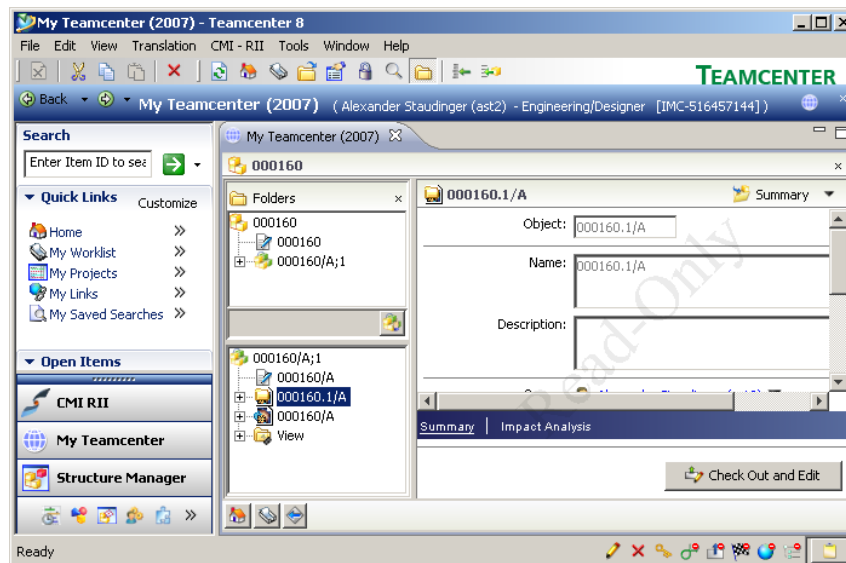

Figure 66: CMI Archive item in Teamcenter
CMI RII has created a new CMI Archive dataset in Teamcenter. The dataset is linked with the item 000160. Figure 66 shows the expanded CMI Archive dataset in the My Teamcenter application.